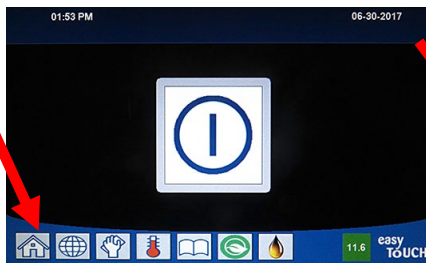

Figure 7
- Wait two (2) minutes and press the "HOME" button on the (see Figure 7).
15. Press the "HOME" button (see Figure 7) when finished.